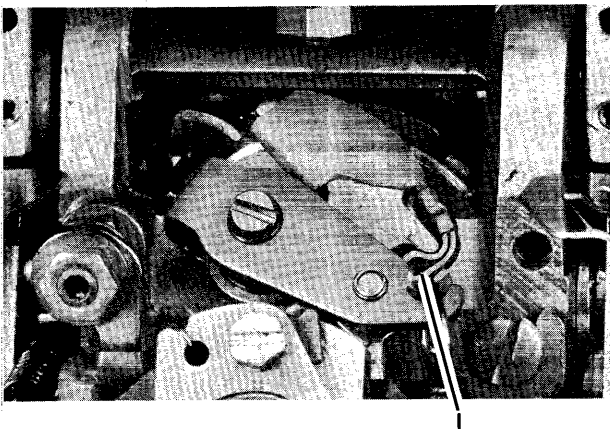

Figure 19. Tilt Tape Replacement
8. Connect the tilt-pulley spring with the open end to the rear (#2, Figure 19).
5. Place the eyelet on the tilt pulley bellcrank (#1, Figure 19).